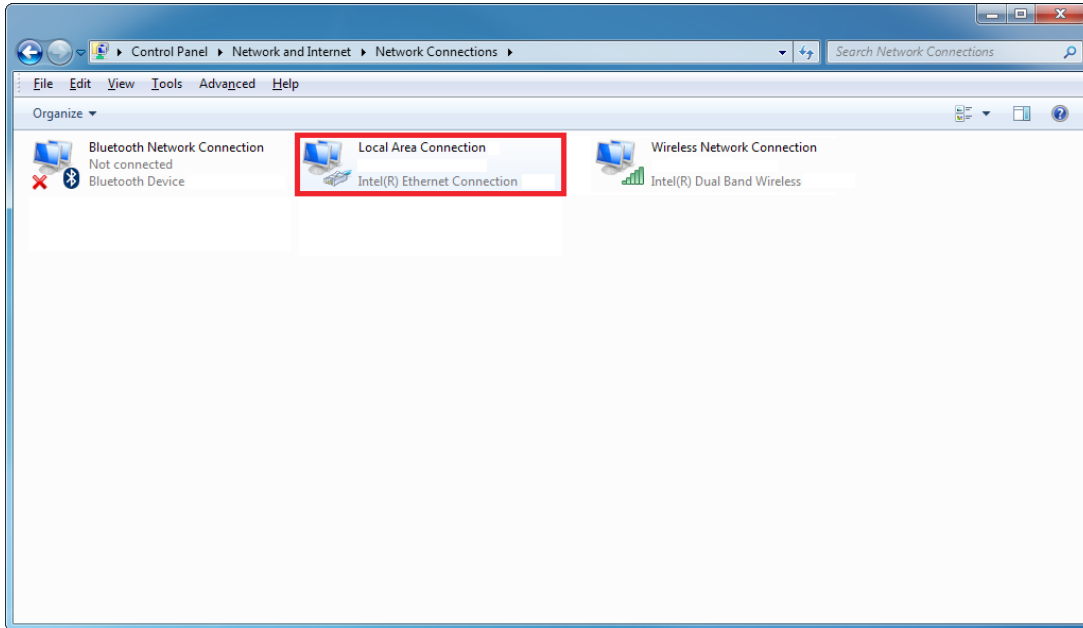

Figure 12 – Local Area Connection
- In the *Change adapter settings* link, you will see icons representing all of the available Ethernet and Bluetooth connections. The Ethernet port on PCs is usually listed as “Local Area Connection” (as shown in Figure 12 below). Be sure to choose the correct Ethernet port for your machine.